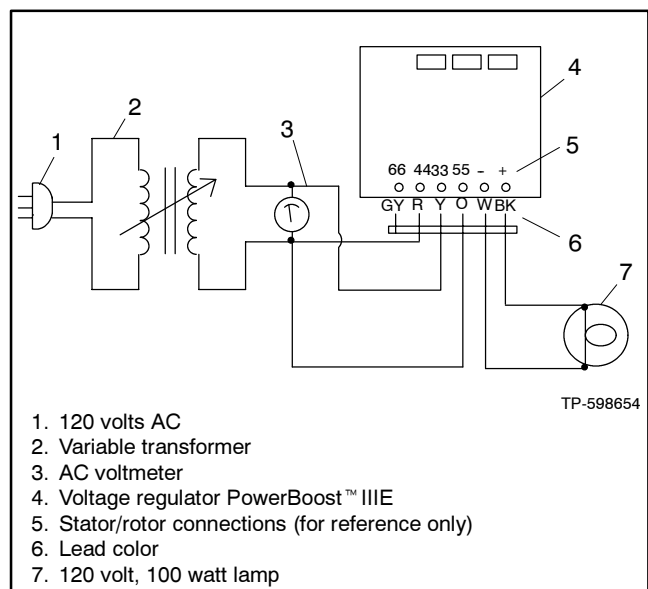

Figure 7-4 PowerBoost™ IIIE Voltage Regulator Test
1. Connect the components as shown in Figure 7-4.